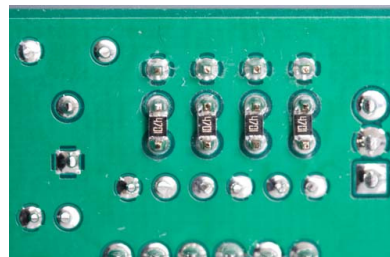

Fig 3: SMD pull-up resistors
- Building an SPO4R put the pull-up resistors each in between the 2 pins of the headers which are not soldered yet. The resistors are SMD type and fit tightly in between the pins. Put the resistors with the white side on the PCB. The black side with imprint stays visible. Solder the remaining pins of the headers. The result should look like fig. 3;